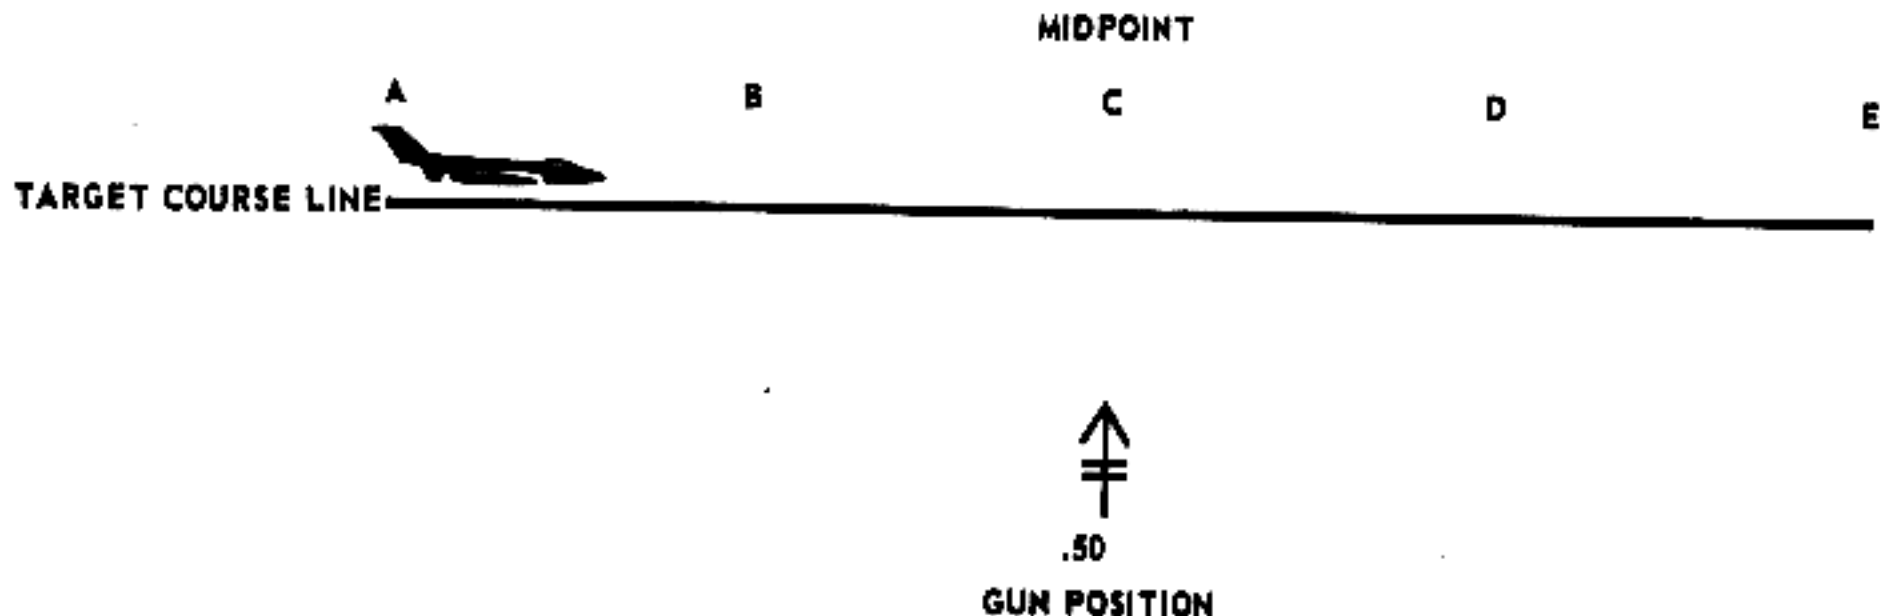

Figure 182. Aerial target engagement.
As an aerial target moves along its target course line, the required lead to engage the target changes due to the changing range and angle between the aircraft and the gun position. The lead required increases from the initial sighting (fig 182, point A) until midpoint (fig 182, point C). The required lead is at its maximum at midpoint. As the aircraft moves beyond the midpoint on the target course line, the required lead begins to decrease, again due to changing ranges, etc. Therefore, by leading an aerial target by less than the maximum required lead, there will be two points along the target course line where the constant lead will be the correct lead and "fly through" will be achieved. "Fly through" is further explained below.
b. (Refer to fig 182.) Let us assume that the gunner brings continuous fire on the aerial target from Point A through Point E. Point A is the point at which the gunner sights and begins to engage the aerial target. Between Point A and B, the rounds will cross the line of flight in front of the aircraft. At Point B, "fly through" will be achieved. Between Points B and D, the rounds will cross the target course line behind the aircraft. At midpoint, the required lead begins to decrease until, at Point D, "fly through" is achieved for the second time. Between Points D and E, the rounds will again cross the target course line ahead of the aircraft.